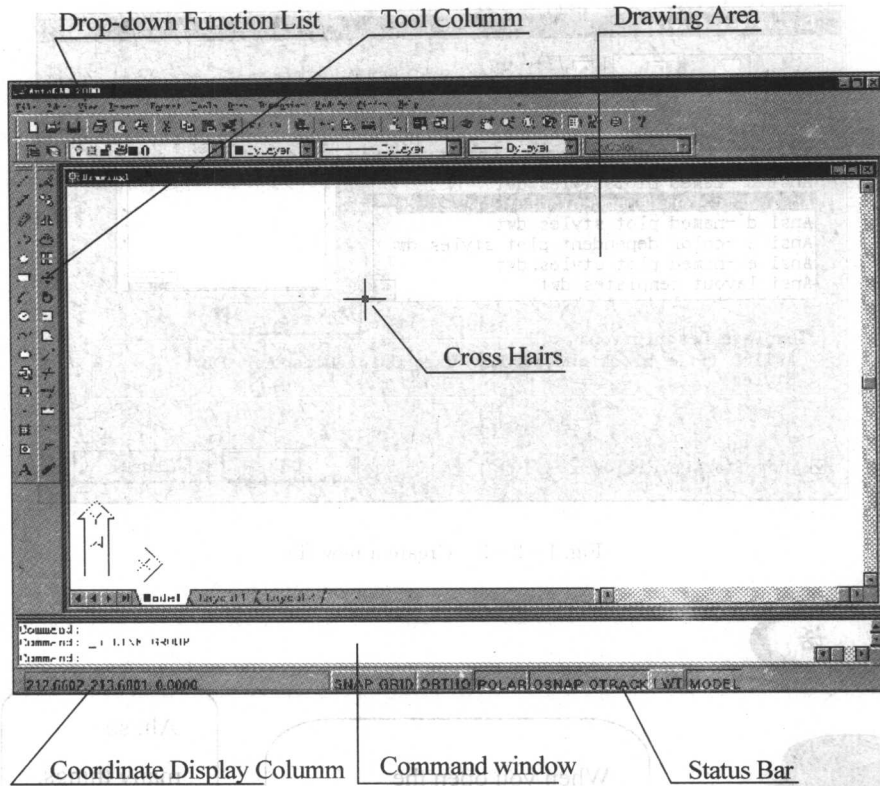

Fig. 1 - 2 - 1 The main user interface of the AutoCAD drawing software
1. The user interface of the AutoCAD drawing software mainly includes seven parts (see Fig. 1 - 2 - 1):
As there are three ways to create a new file, just click one of them (Fig. 1 - 2 - 2).